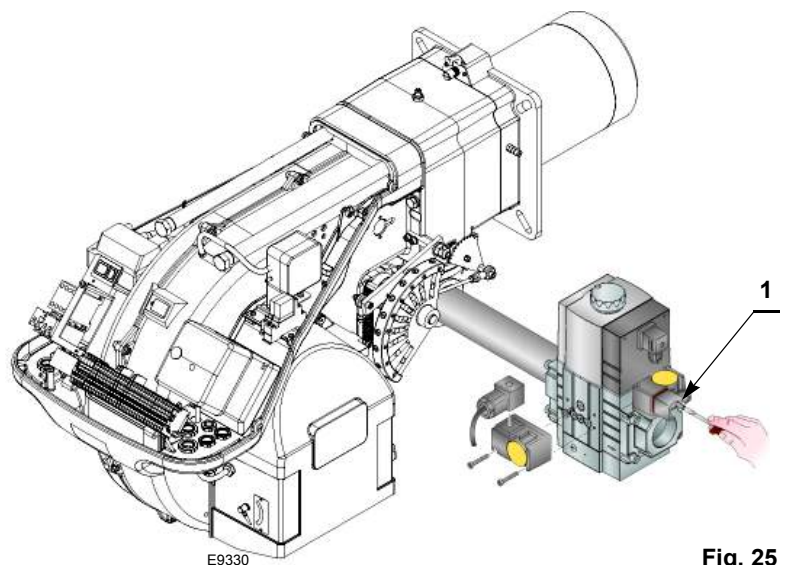

Fig. 25
- Check the gas supply pressure by connecting a pressure gauge to the pressure test point 1)(Fig. 25) of the minimum gas pressure switch: it must be lower than the maximum allowed pressure of the gas train, as shown on the characteristics label.
- Bleed the air from the piping of the gas train, connecting a plastic tube to the pressure test point 1)(Fig. 25) of the minimum gas pressure switch. Take the vent tube outside the building so you can notice the smell of gas.